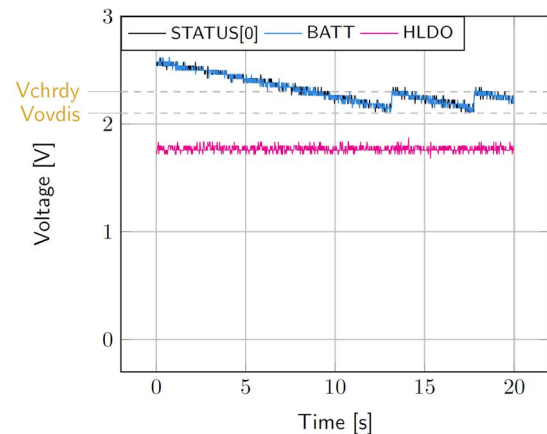

Figure 5: Switching from *SRC* to the primary battery
- *BATT*: Voltage decreases as the system consumes the power accumulated in the storage element. The voltage reaches V_{OVDIS} and then rises again to V_{CHRDY} as it is recharged from the primary battery (see Figure 5).
- *STATUS[0]*: Never de-asserted as the LDOs are still functional (see Figure 5).
- *HVOUT*: Stable and not affected by switching on the primary battery (see Figure 5).